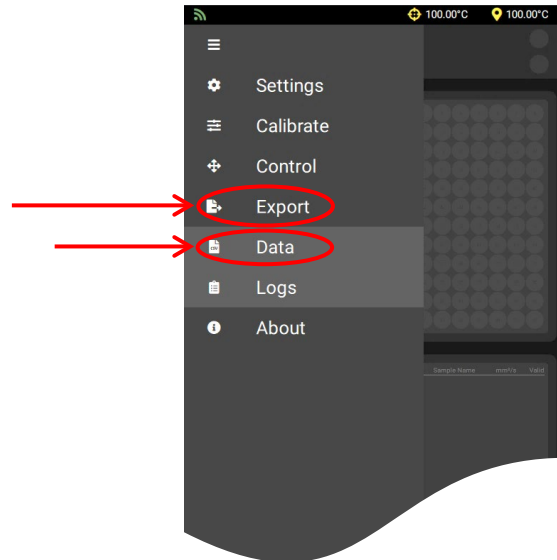

Figure 61: Export Data Menu
2. From the **Main Menu**, choose **Export**. The **Export** menu will expand, choose **Data**. See Figure 61.